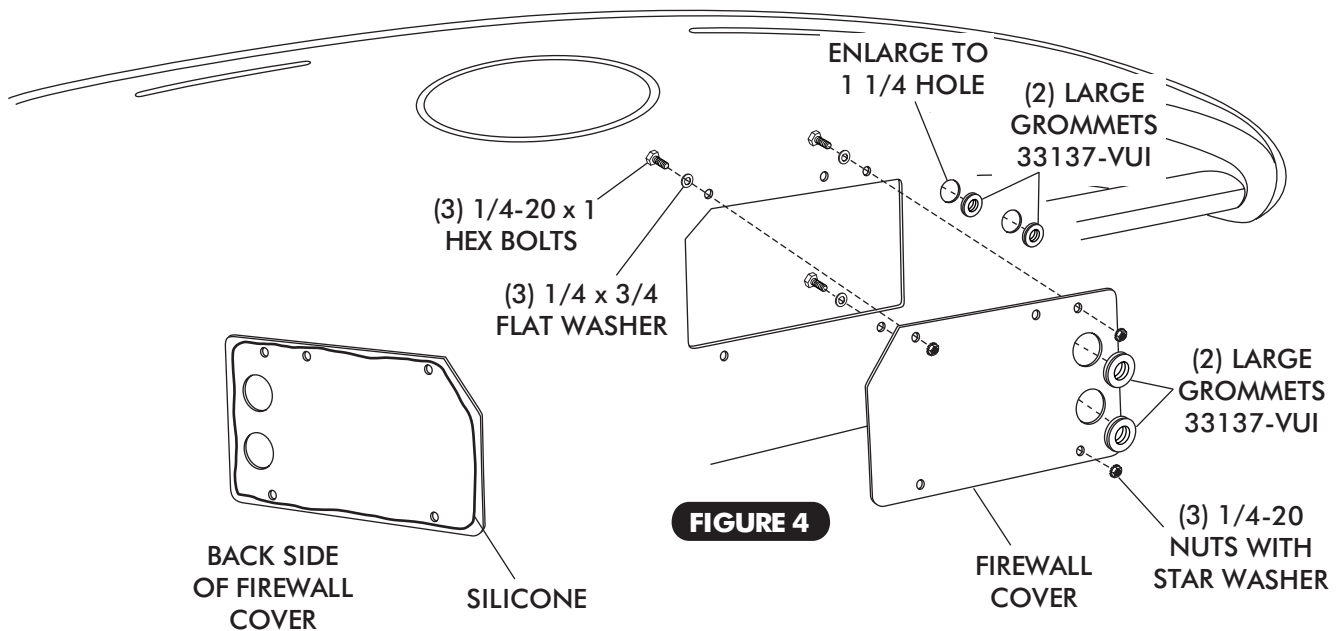

FIGURE 4
- APPLY A 1/4" BEAD OF SILICONE AROUND THE BACK SIDE OF THE FIREWALL COVER AS SHOWN IN FIGURE 4, BELOW.
- FROM INSIDE THE CAR, INSTALL FIREWALL COVER ON FIREWALL USING (3) 1/4-20 x 1 HEX BOLTS, FLAT WASHERS AND 1/4-20 NUT WITH STAR WASHER, SEE FIGURE 4, BELOW. (NOTE: USE SEAM SEALER TO FILL GAP BETWEEN COVER & LIP IN FIREWALL BEFORE PAINTING.)